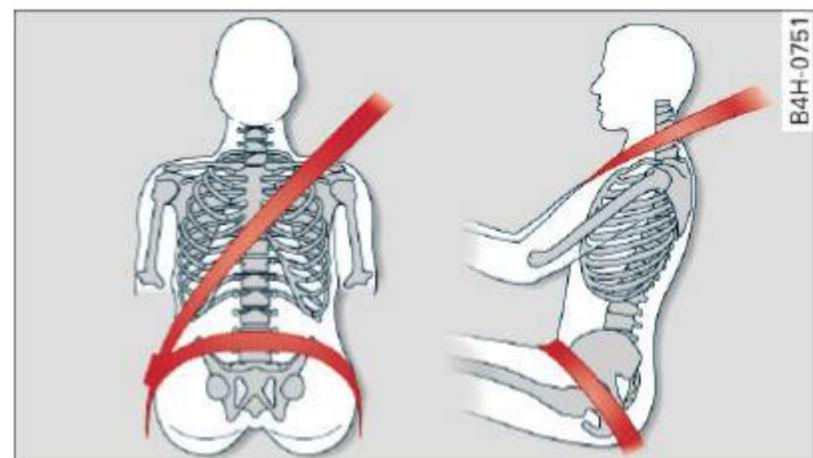

Fig. 149 Safety belt position
- The shoulder belt should lie as close to the center of the collar bone as possible and should fit well on the body. Hold the belt above the latch tongue and pull it evenly across the chest so that it sits as low as possible on the pelvis and there is no pressure on the abdomen. The belt should always fit snugly ⇒ *fig. 149*. Pull on the belt to tighten if necessary.
- The lap belt portion of the safety belt must be positioned as low as possible across pelvis and never over the abdomen. Make sure the belt lies flat and snug ⇒ *fig. 149*. Pull on the belt to tighten if necessary.